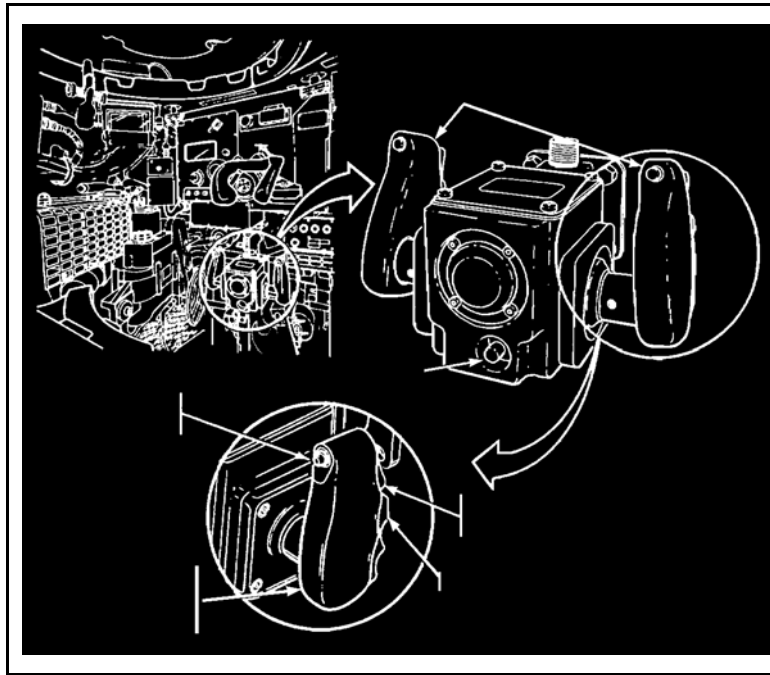

Figure 5. Gunner's control handle.
11. Fire at the target by squeezing the trigger switches on the gunner's control handles. Fire one round at a time for sensing (Figure 5, page 3-156).